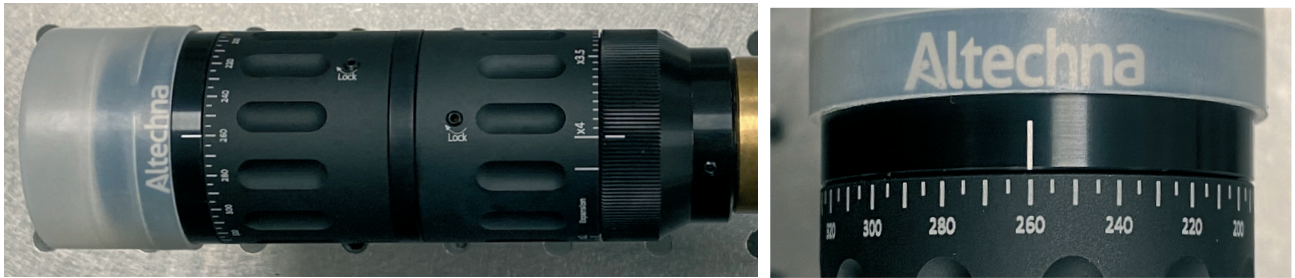

Figure 14. Setting the focusing most outwards.
- Set VBE expansion scale to “x4” and focusing scale cylinder most counter-clockwise so that sliding cylinder at the output of VBE would be most outwards, it should correspond to ~260° mark on the scale (fig. 14):